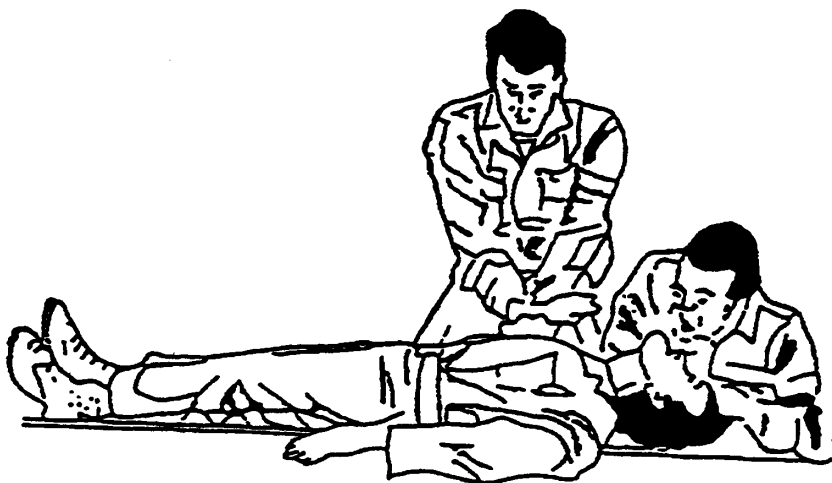

Figure 5 Heart Massage and Artificial Breathing by Persons
- h. If there are two persons available, one should do heart massage, and the other artificial breathing. (Figure 5) In this case, the ratio of heart massage to artificial breathing should be 5 to 1.